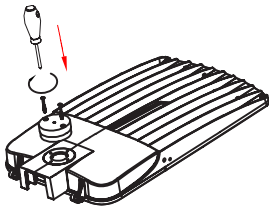

Figure 4
4. Use screws to attach the socket base and waterproof gasket. (Fig. 4). Wire photocell as per Fig. 7.